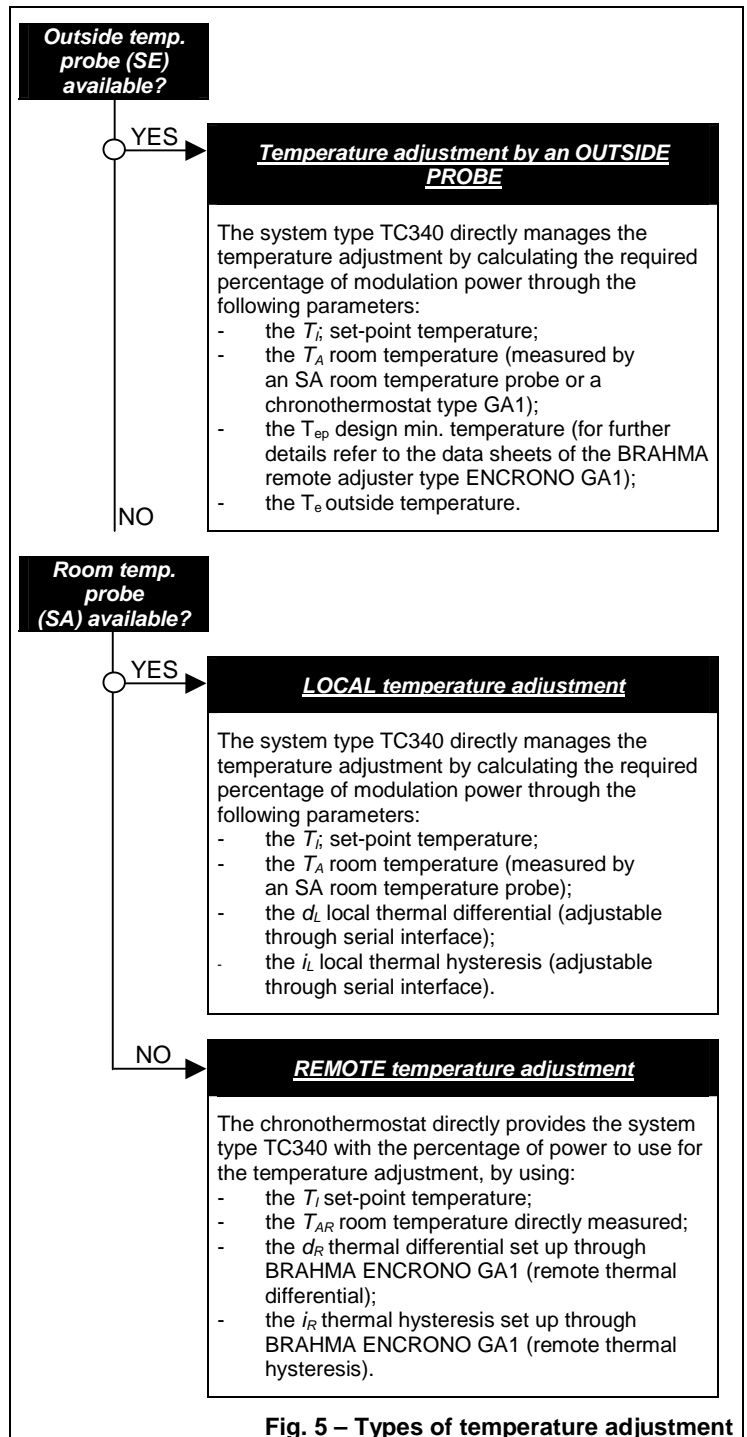

Fig. 5 – Types of temperature adjustment
- 5) outside temperature (t_e): if the system is equipped with an outside temperature probe, this temperature value will influence the final power percentage as shown in Fig. 5;
- 6) design min. outside temperature (t_{ep}): if the system is equipped with an outside temperature probe, the design min. temperature, i.e. the min. outside temperature that can be reached by the system, will influence the final power percentage as shown in Fig. 5.
Fig. 5 shows the three types of temperature adjustment available in the system.